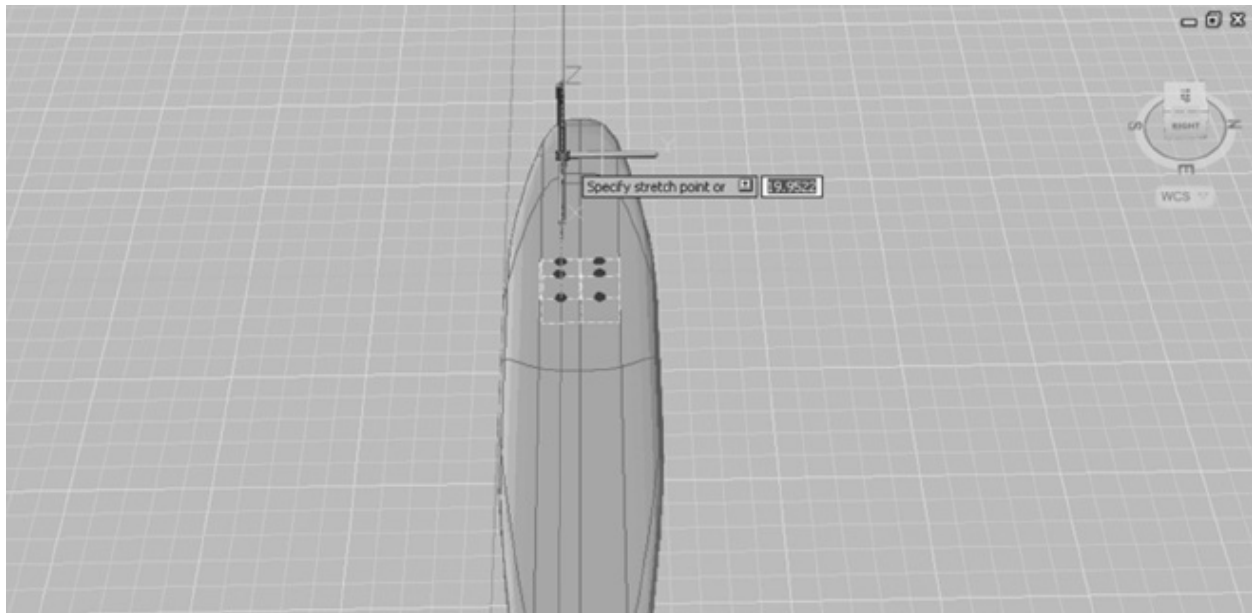

FIGURE 23.12 Adjust the mesh to look similar to this one.
5. When your mesh looks similar to Figure 23.12, click your mouse button.